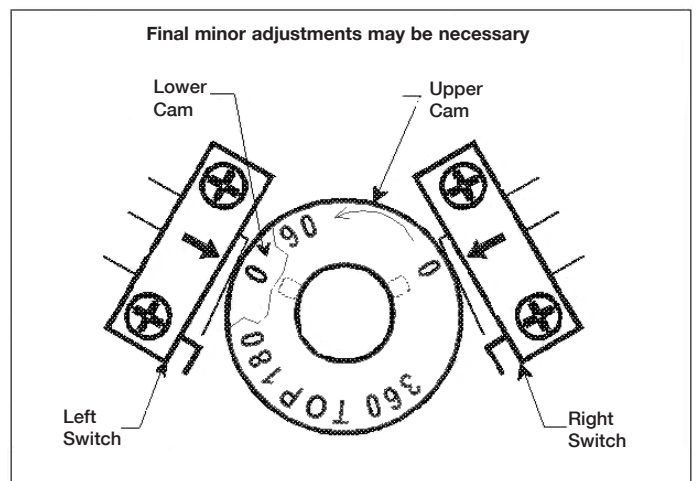

Figure 6. Cams.
5. Push down and rotate Actuator shaft so that the 0 degree mark lines up with arrow on switch housing. (Bottom cam should now also line up with the arrow. See figure 6.)
6. Reset cams, as defined earlier in Step 3 by loosening the locking nut 1/4 turn counter clockwise and line up specified marking on cams with arrows on switch housings (See figure 6).